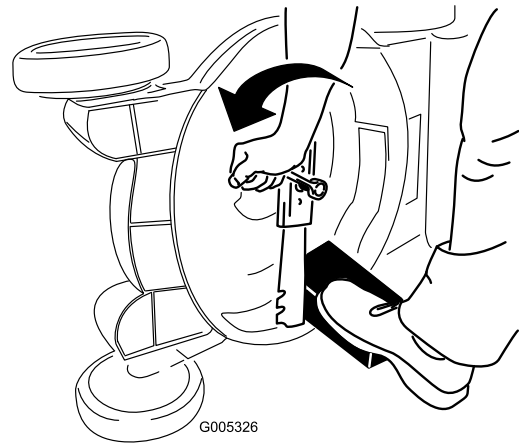

Figure 47
3. Use a block of wood to hold the blade steady (Figure 47).
4. Remove the blade, saving all mounting hardware (Figure 47).